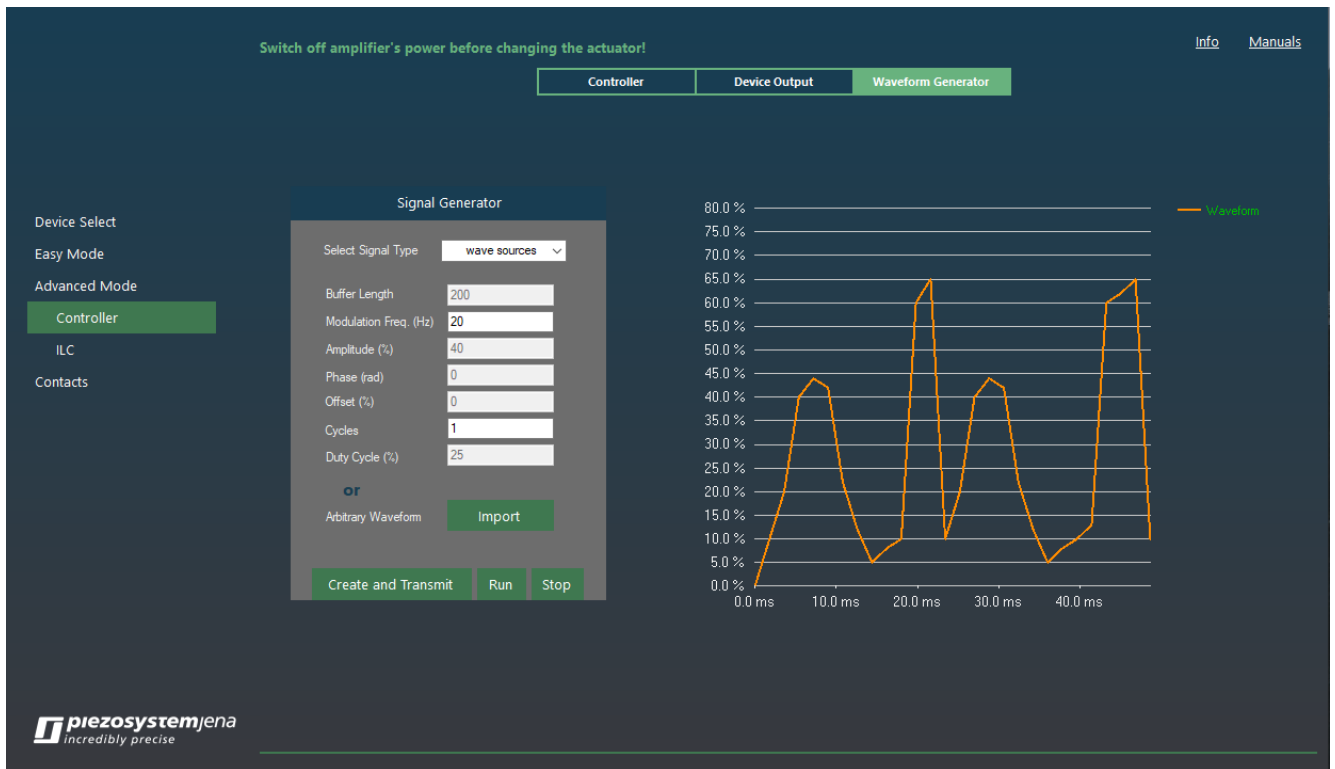

Figure 12 Preview of Imported arbitrary wave
- **Create & Transmit** – this will load the desired arbitrary waveform to the chart so that can be previewed before sending (**Figure 12**). This will later transmit the whole data to the internal buffer of the NV200D/NET amplifier.